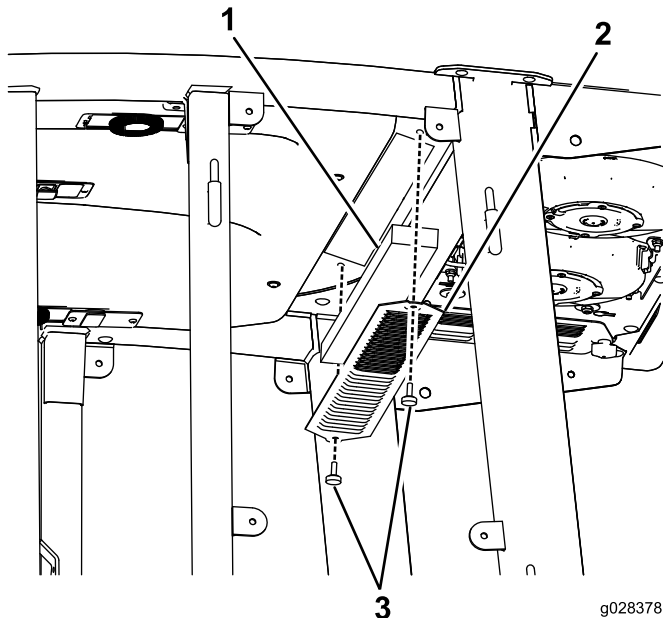

Figure 92
1. Remove the screws and grates from over both the in-cab and rear cab-air filters (Figure 92).